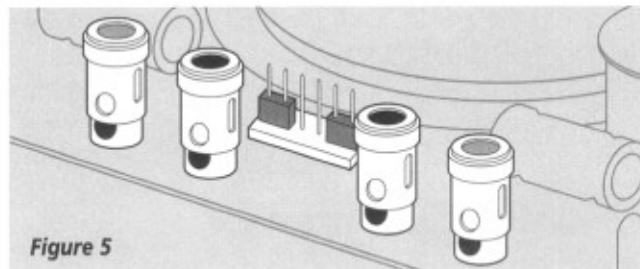

Figure 5
- 4** Attach the previously installed audio feed wires to the appropriate speaker terminals. For Mono or TriVector operation either set of input terminals may be used. For Stereo operation one set of leads is attached to each set of input terminals. Simply remove 1/2 inch of insulation from the end of each input wire. Push down on the terminal connector and a large opening will appear in the shaft of the connector that is capable of holding up to 10 gauge wire. Insert the bare wire into the opening and release the terminal. Be sure to observe correct polarity, connecting the positive (+) leads to the red terminals and the negative (-) leads to the black terminals. Also be sure that no stray strands of wire touch across any terminals. See Figure 5.